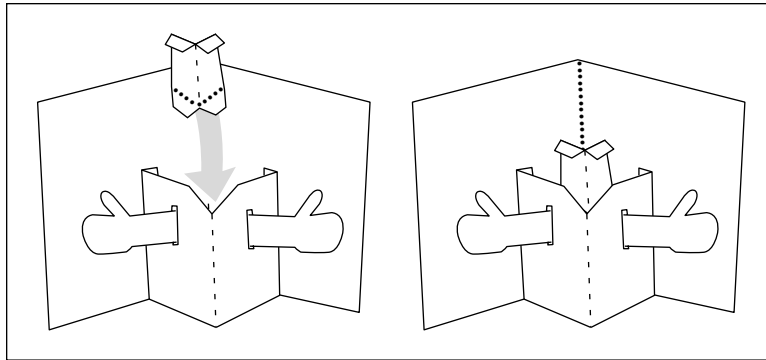
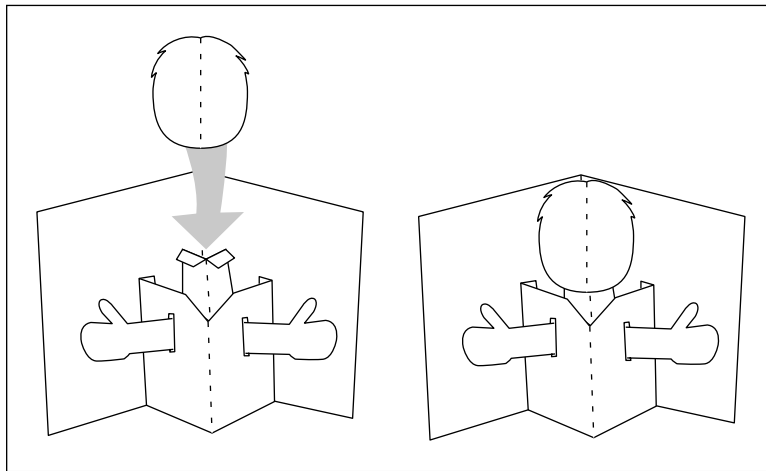

Figure 6-26:
Figure 6-27:
6. Glue the neck piece at the top of the body as in Figure 6-26; then glue the head into place (Figure 6-27).